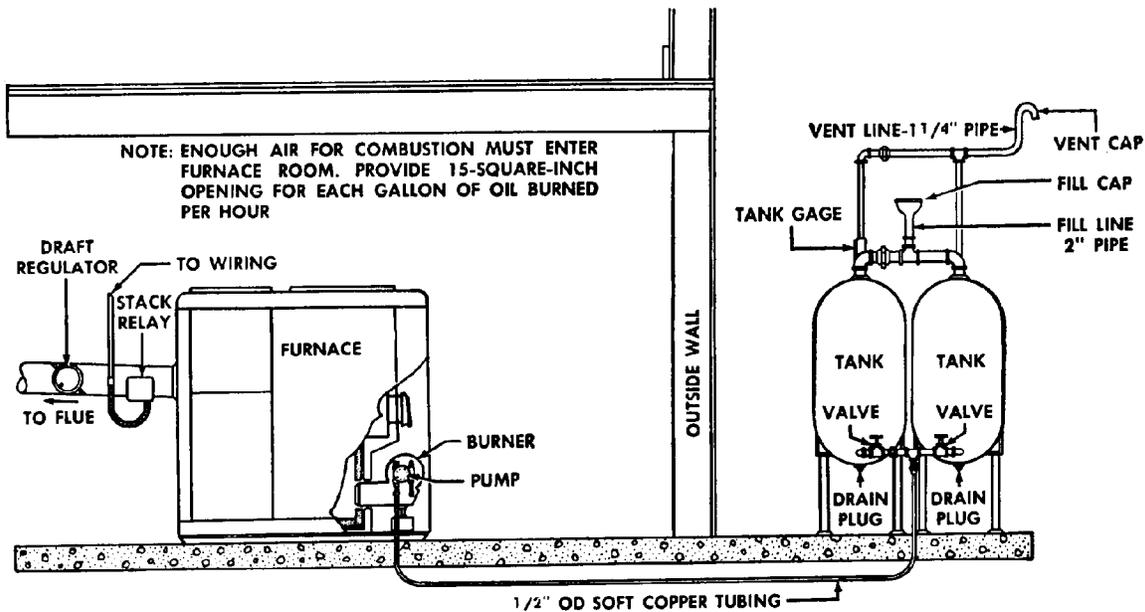

Figure 2-1. Inside or elevated outside oil tank installation.
a. *Indoor or elevated outdoor tanks.* Whenever possible, install single-pipe gravity oil feed inside or elevated outside tanks. (See figure 2-1.) Use a 1/4-inch globe valve at the tank rather than a larger valve, which may cause "tank hum".